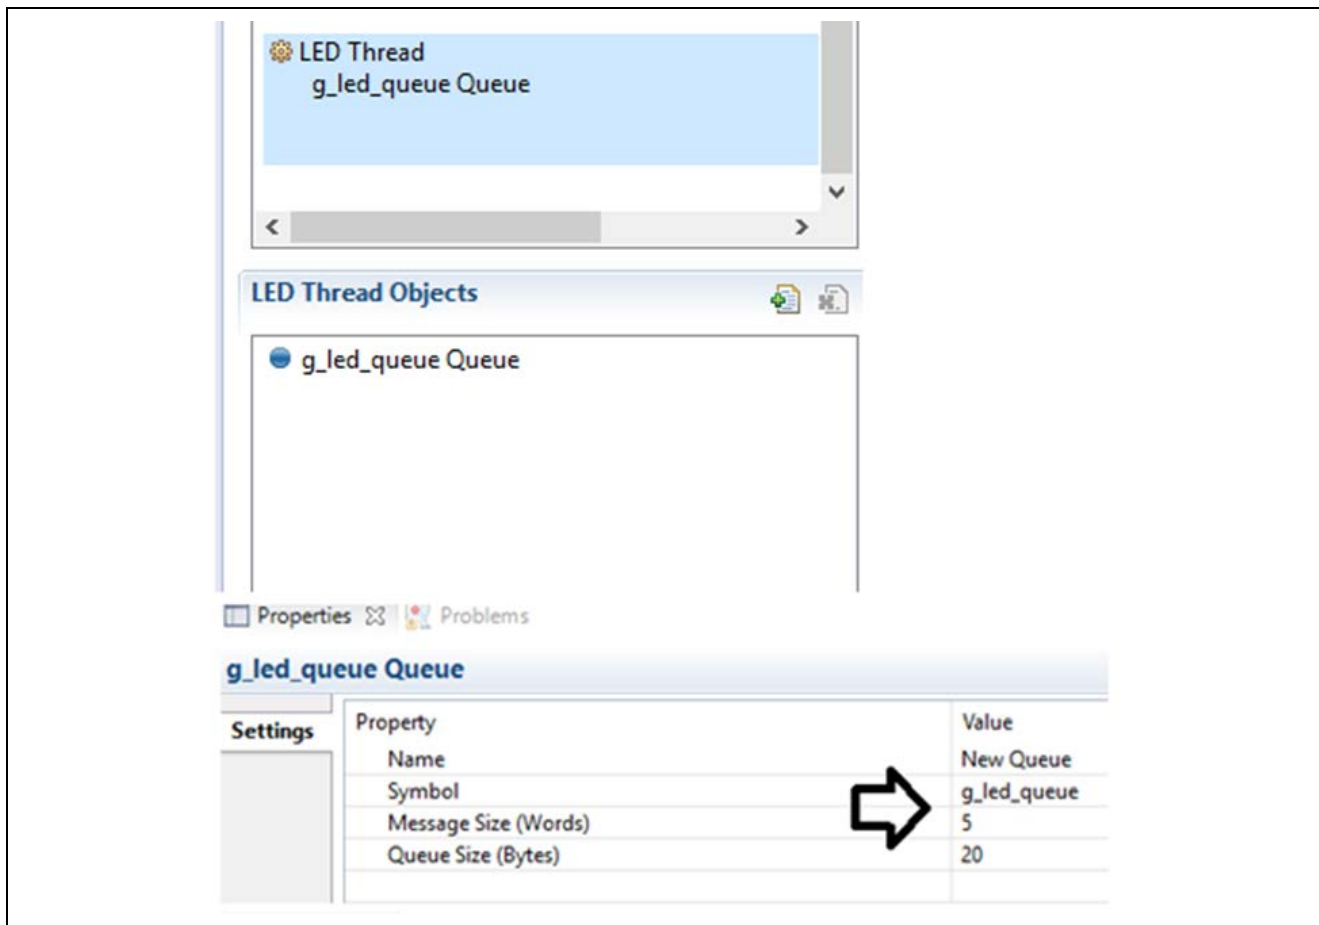

Figure 12. LED Thread Object Properties
- Go to **LED Thread Objects** tab. Click the **New Object** button to create the queue for this thread and set its **Properties** (see Figure 12).